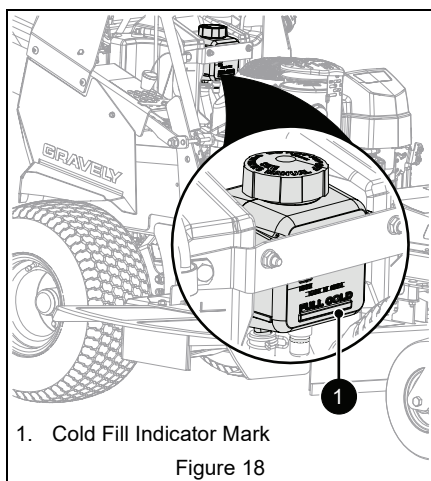

Figure 18
See Figure 18.
3. Fill the expansion tank with 15W-50 synthetic motor oil (Gravely p/n 00057100) or equivalent until oil reaches the cold fill indicator mark. See Figure 18.